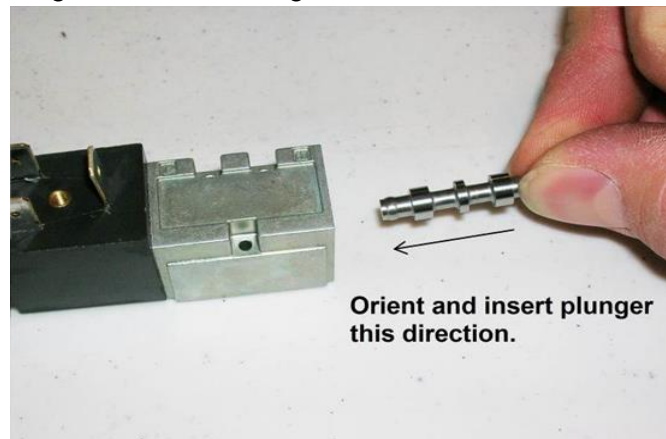

Figure 5-4: Solenoid Plunger
- Orient and insert the plunger as shown in Figure 5-4.